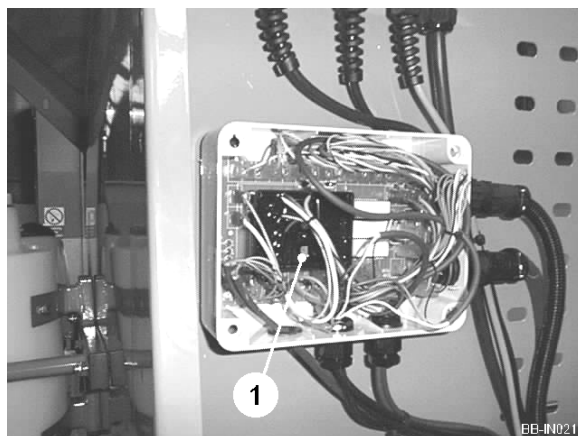

Fig 22
A timer is built into the depth control circuit which is designed to provide a time delay between activation of the 'up' sensor and actuation of the hydraulic control valve. The time delay can be adjusted between 1 and 5 seconds by turning the relay potentiometer screw (item 1, figure 22) located under the junction box lid. Time delay is increased by turning the screw clockwise and decreased by turning it anti-clockwise. Normally a 3 second delay smoothes out any surface irregularities allowing the planter to gradually change height according to changes in bed height.